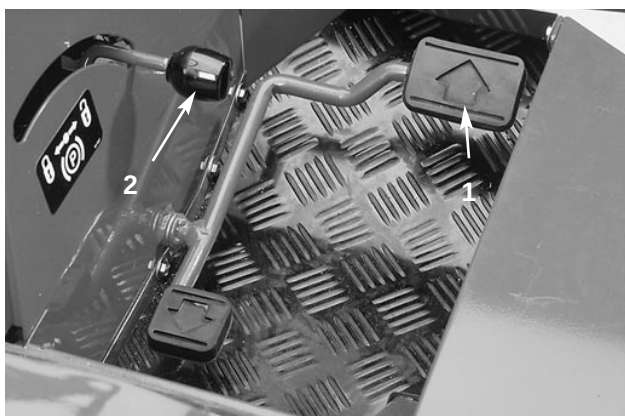
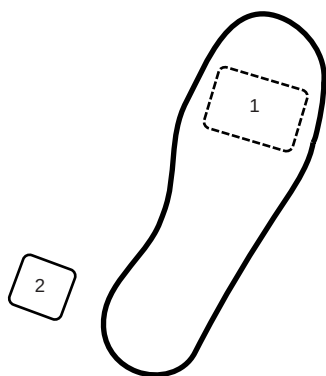

Figure 6
Figure 7
**Traction Pedal** (Fig. 6)—The traction pedal: 1) makes the machine move forward, 2) moves it backward and 3) stops the machine. Using the heel and toe of your right foot, depress the top of the pedal to move forward and the bottom of the pedal to move backward or to assist in stopping when moving forward. Also, allow the pedal to move or move it to the neutral position to stop the machine. Do not rest the heel of your foot on reverse when going forward (Fig. 7).
**Parking Brake** (Fig. 6)—Whenever the engine is shut off, the parking brake must be engaged to prevent accidental movement of the machine. To engage the parking brake, pull back on the lever. After releasing the parking brake, move the mower slightly in reverse to release the brakes before moving forward.